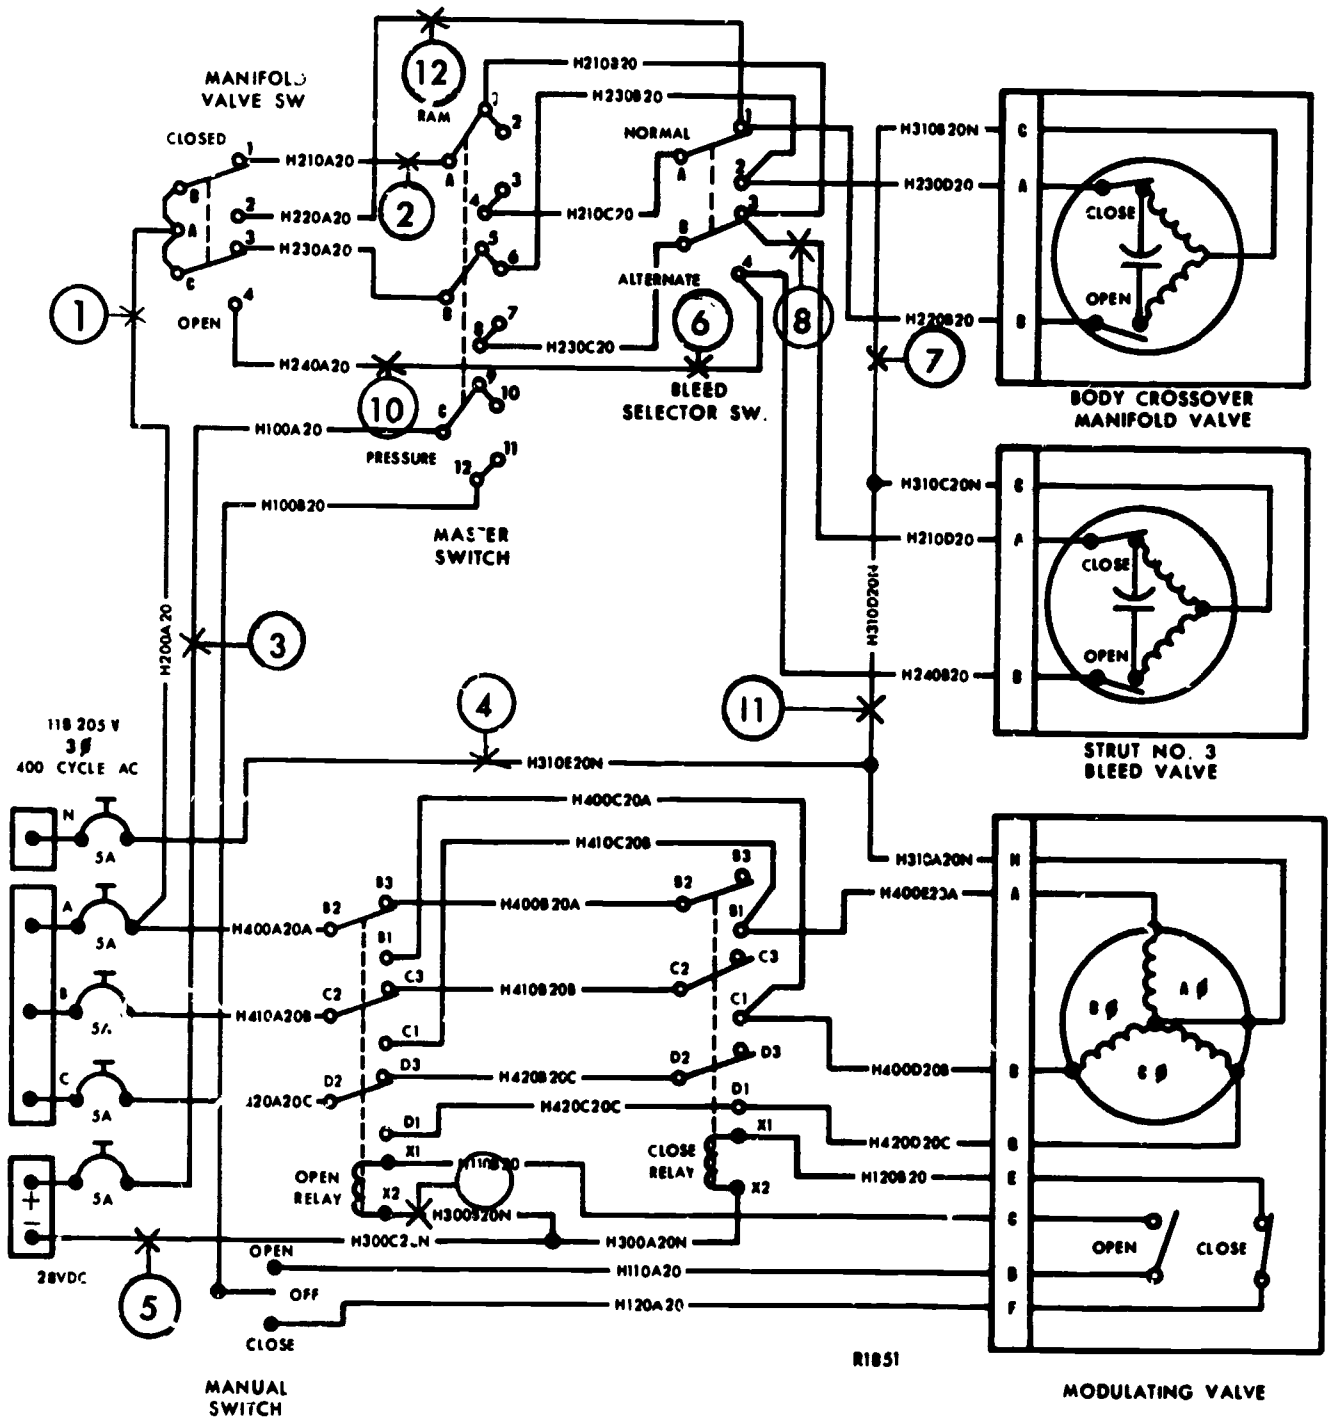

Figure 6b.
Using figures 6b and 7, you will identify the circuit malfunction(s) in the AC Motor Control Circuit which are all caused by open circuit(s). You will place one or more "X's" in the block(s) which will give you the correct circuit malfunction. The first one has been done for you.
First look at figure 7 and find practice problem #1, then, using figure 6b, look for problem #1 in the AC Motor Control Circuit. After you have found #1 on figure 6b, you will see that it points to an open positive wire for both single phase valves. Remember that all the problems given in this exercise are open circuits.
2. Figure 6b gives you the location of the open circuit H200A20 the positive lead for both single phase motor valve assemblies.
3. Look at figure 6b and place the manifold valve switch, master switch, and the bleed selector switch in any combination of positions, you should then find that the body crossover manifold and strut number 3 bleed valve will not operate. You will also find that wire H200A20 is not used in any way to support the operation of the modulating valve. Now examine figure 7 and you will find how this problem number 1 has been marked for you.
You should be able to complete this practice problem on your own using figures 6b and 7. If you are not sure, consult your instructor at this time.